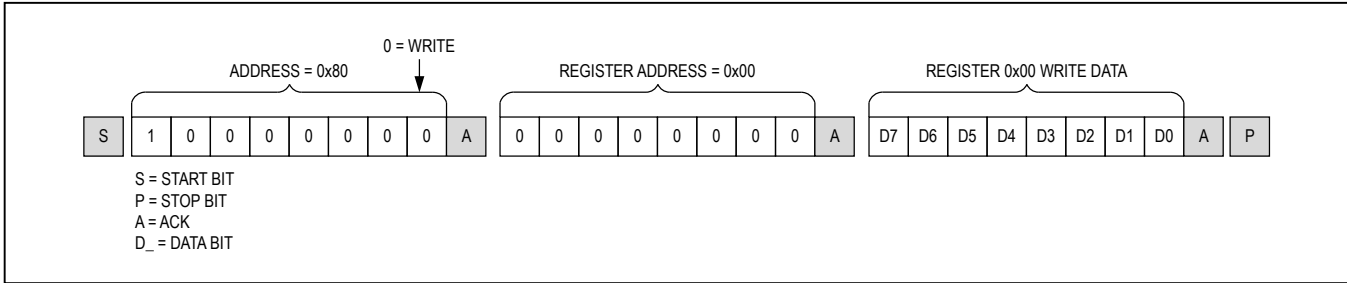
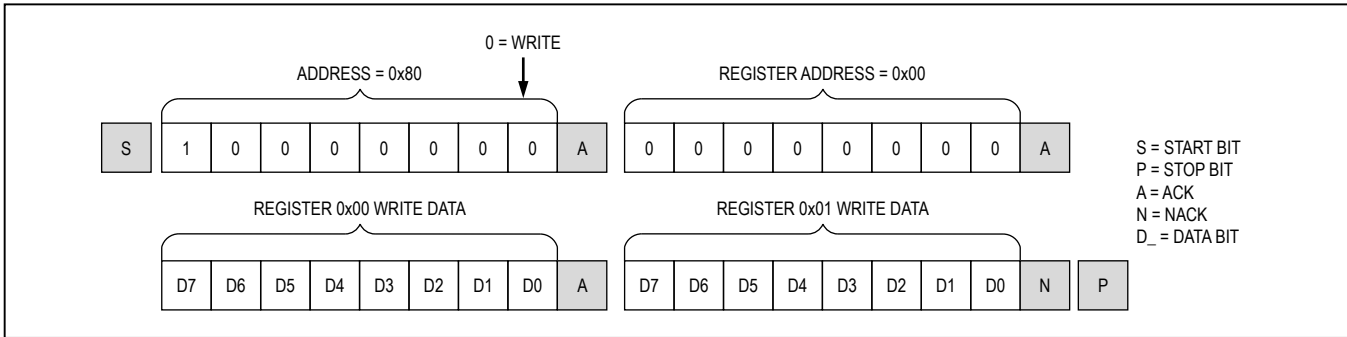

Figure 31. Format for I2C Write
Figure 32. Format for I2C Write to Multiple Registers
Writes to the serializers comprise the transmission of the slave address with the $R/\overline{W}$ bit set to zero, followed by at least one byte of information. The first byte of information is the register address or command byte. The register address determines which register of the device is to be written by the next byte, if received. If a STOP (P) condition is detected after the register address is received, the device takes no further action beyond storing the register address (Figure 31). Any bytes received after the register address are data bytes. The first data byte goes into the register selected by the register address, and subsequent data bytes go into subsequent registers (Figure 32). If multiple data bytes are transmitted before